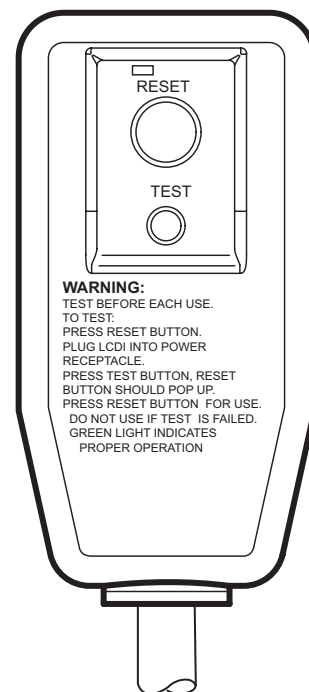

Figure E.2
2. Press RESET (see Figure E.2).